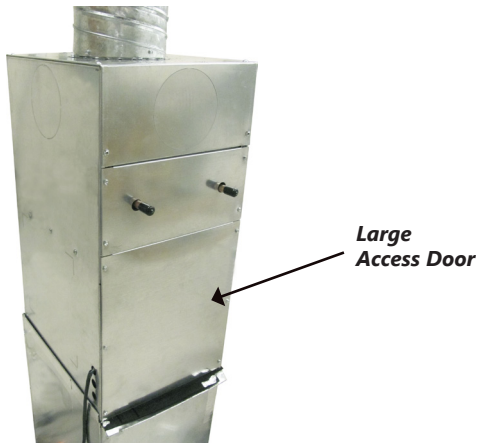

Fig. 1 - 52 Series Air Handler
1. Turn off power to the air handler, and allow 5 minutes for power stored in capacitors to dissipate. Remove large access door from air handler. (Fig. 1)